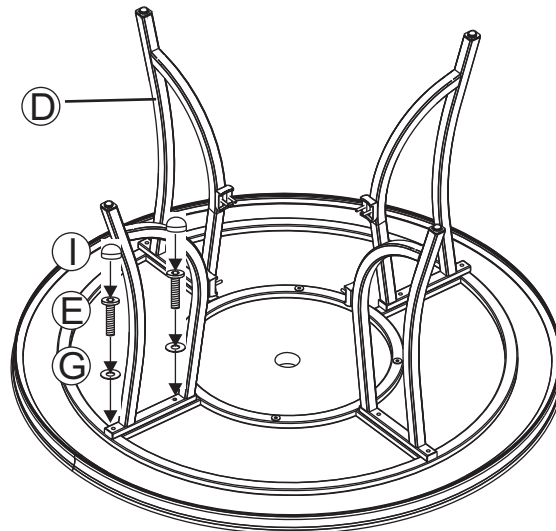

Figure 2
- 2 Working from the front of the chair, add a washer to a 1/4"x45 mm bolt. From the underside of the front seat support bar, insert the bolt with washer through one of the holes in the seat support bar, into the fixed nut inside the lower front portion of the seat base as shown in **Fig.2**. **Hand tighten 3-4 revolutions only. Do not tighten Completely.** Repeat for opposite side of chair.
- 2 Attach a table leg (D) to the top connector bracket by using two bolts and $\text{Ø}6.5 \times 1.0$ mm washers as shown in **Figure 2**. **Hand tighten 2-3 turns only.** Repeat for the other legs.
- 3 Attach a table leg to the leg connector bracket by carefully guiding the bolts already in place on the table legs (each leg has two bolts) through the holes in the leg connector bracket. Add a $\text{Ø}6.5 \times 1.0$ mm washer and a nut to the end of each bolt as shown in the **Figure 2**. **Hand tighten 2-3 turns only.** Repeat on the other three legs.